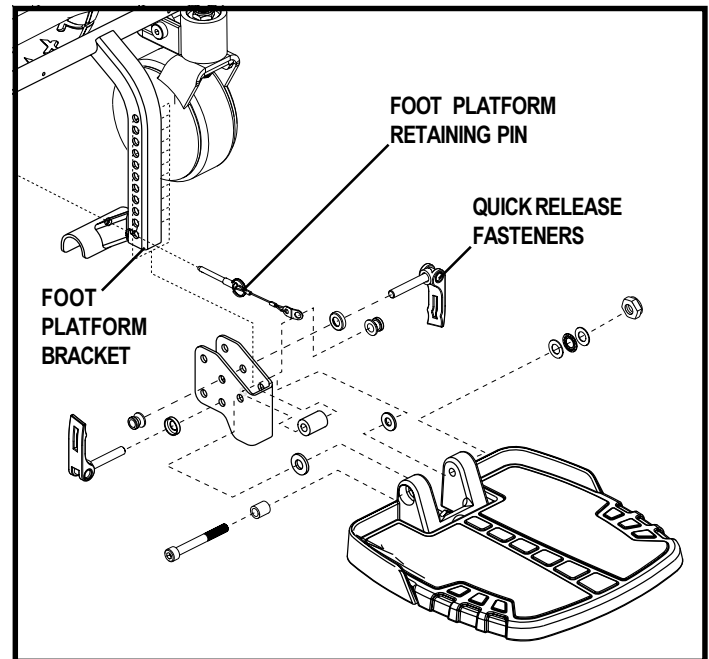
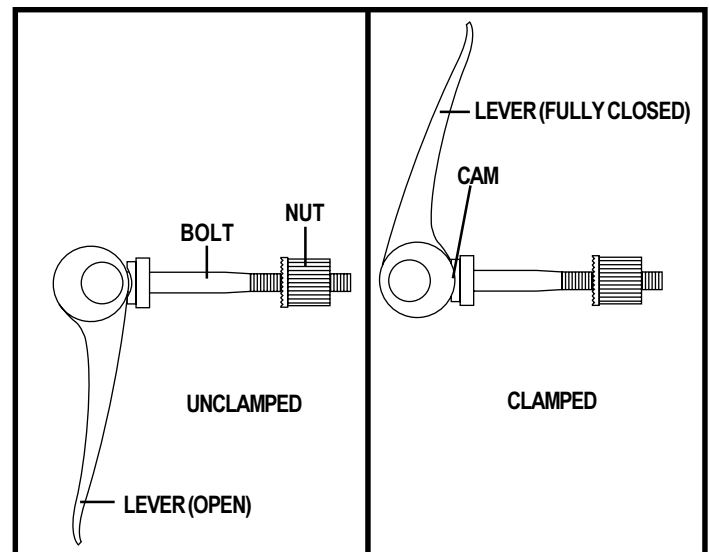

Figure 16. Foot Platform Adjustment
Figure 17. Quick Release Fastener Operation
1. Remove the quick release fasteners from the foot platform bracket. See figure 16.
Quick Release Fasteners: The foot platform is attached to the power base with two quick release fasteners. See figure 16. Each quick release fastener consists of a bolt, a lever, and a nut. See figure 17. The lever has a cam on the end that allows it to clamp into place. The quick release fastener has two states: clamped and unclamped. When the lever is open, the quick release fastener is unclamped. When the lever is closed, the quick release fastener is clamped.
You can adjust the angle of the foot platform with a hex key. See figure 16.